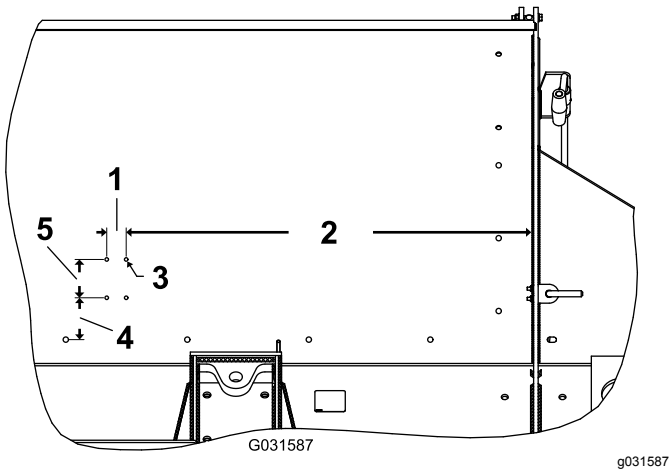

Figure 12
1. Drill 4 mounting holes (7 mm or 9/32 inch) on the side of the hopper. Refer to Figure 12 for the drilling dimensions.